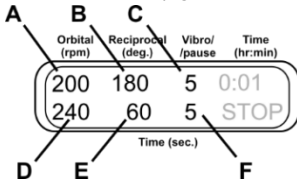
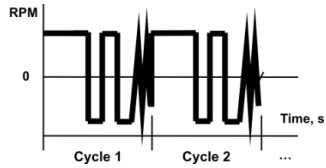

Figure 7.
Figure 8.
7.9.2. **Orbital + Reciprocal + Vibro motion.** Set the speed (fig. 7/A, 20–250 rpm) and time (fig. 7/D, 1–250 s) of Orbital motion. Set the amplitude (fig. 7/B, 0–360°) and time (fig. 7/E, 1–250 s) for Reciprocal motion. It is performed at the same speed as the Orbital motion (fig. 8). Set the amplitude (fig. 7/C, 0–5°) and time (fig. 7/F, 1–5 s) for Vibro motion.